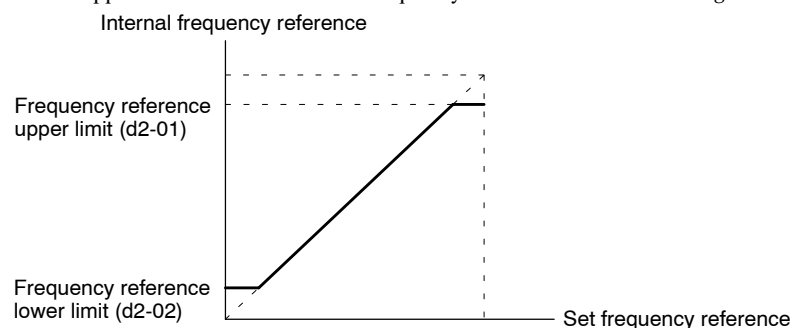

Fig 7.30 Upper and Lower Limits of the Frequency Reference
- The upper and lower limits of the frequency reference are shown in *Figure 7.30*.